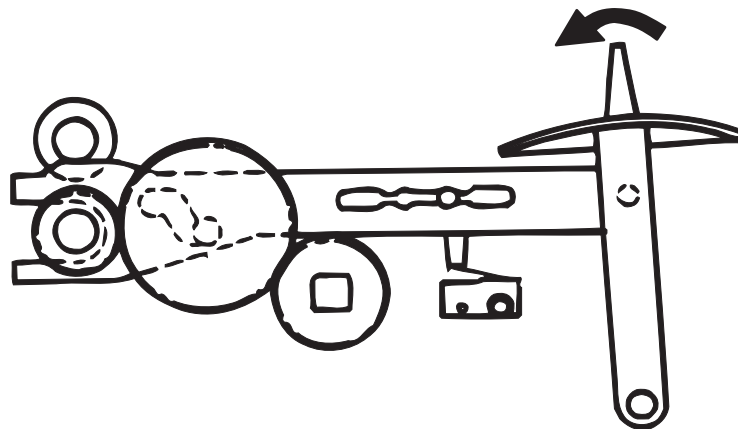

Figure 2-9
(3) Cut-sheet and continuous paper switching mechanism (See Figure 2-9.)